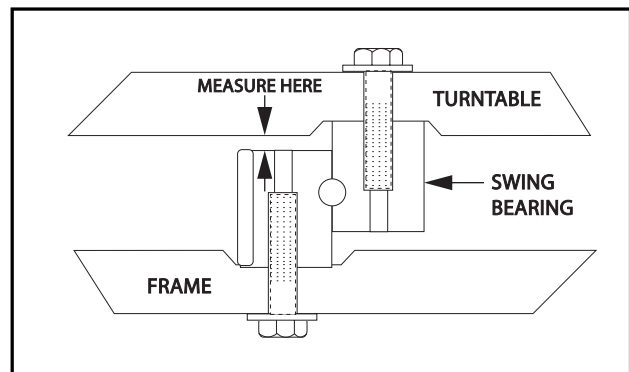
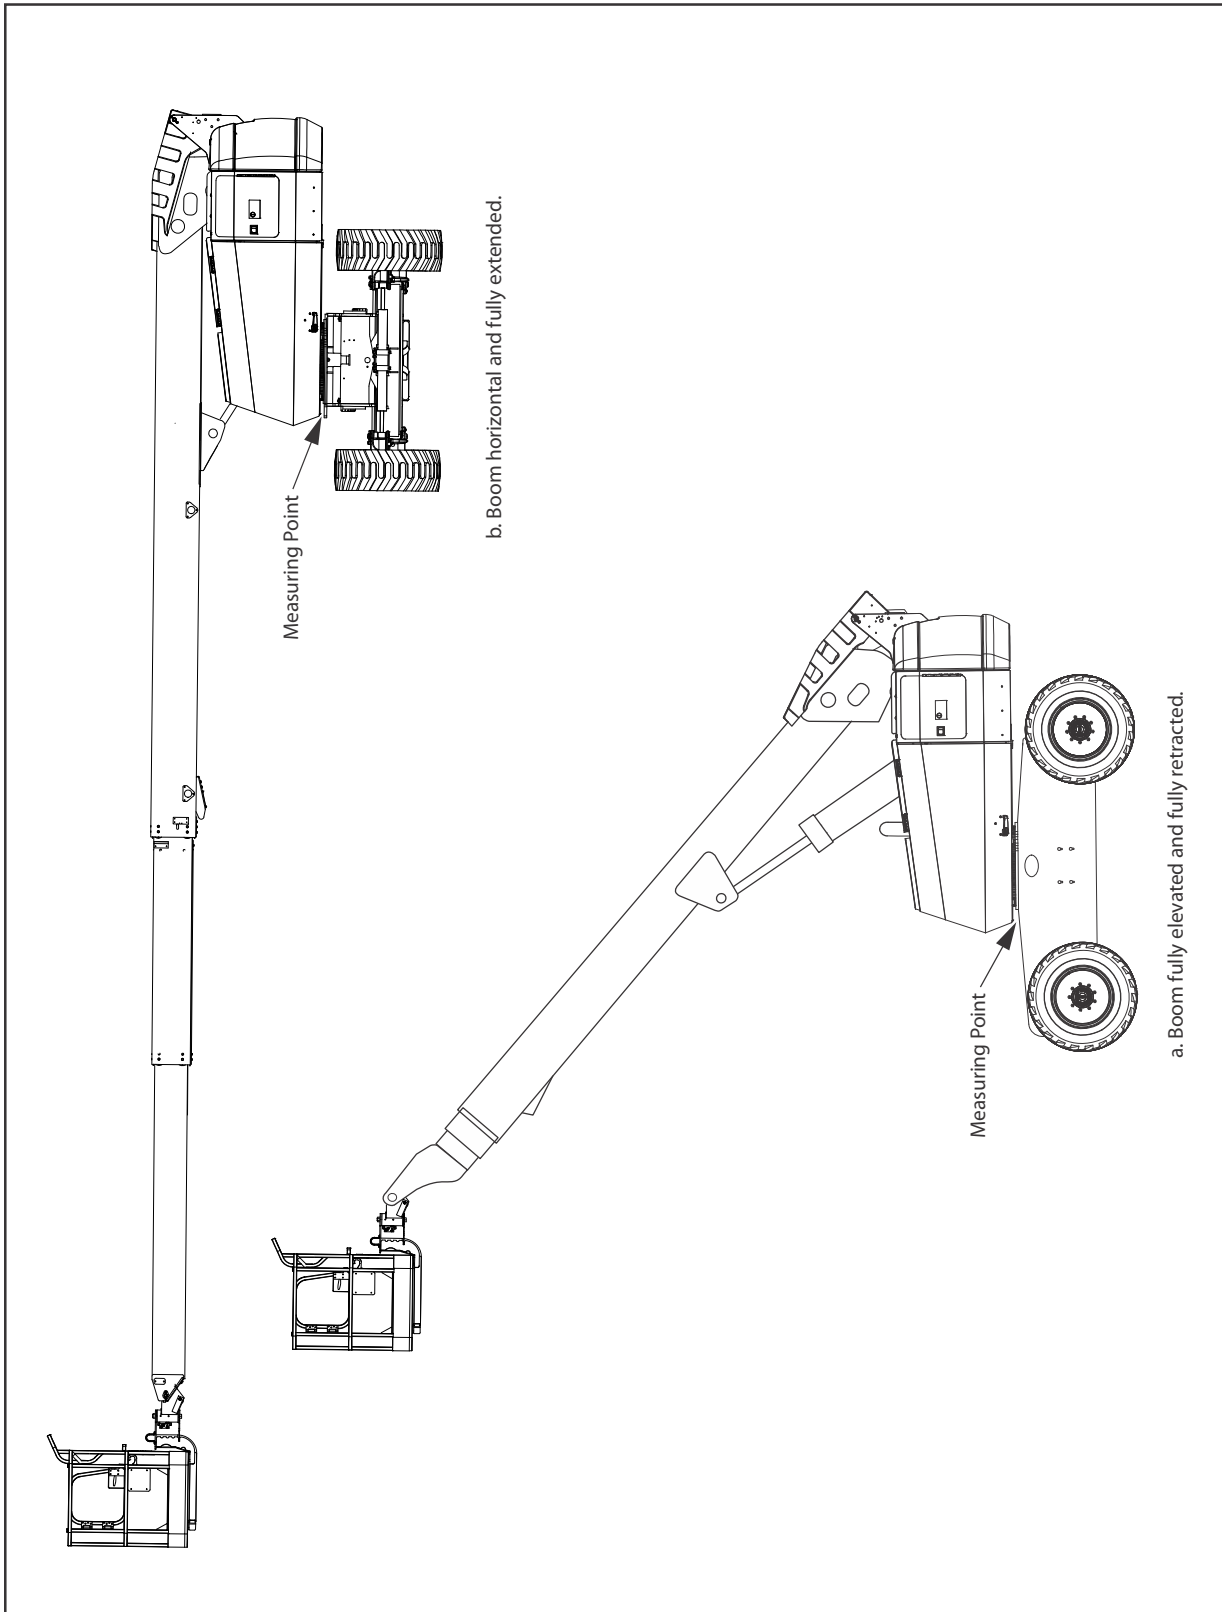

Figure 3-62. Swing Bearing Tolerance Measuring Point
Figure 3-63. Swing Bearing Tolerance Measurement Location & Boom Placement
1. From underside of machine, at rear center, with boom fully elevated and fully retracted, as shown in Figure 3-63., Swing Bearing Tolerance Measurement Location & Boom Placement A, using a magnetic base dial indicator, measure and record distance between swing bearing and turntable as shown in Figure 3-62., Swing Bearing Tolerance Measuring Point.
2. At the same point, with boom horizontal and fully extended, and tower boom fully elevated as shown in - Swing Bearing Tolerance Boom Placement B, using a magnetic base dial indicator, measure and record distance between swing bearing and turntable as shown in Figure 3-62., Swing Bearing Tolerance Measuring Point.